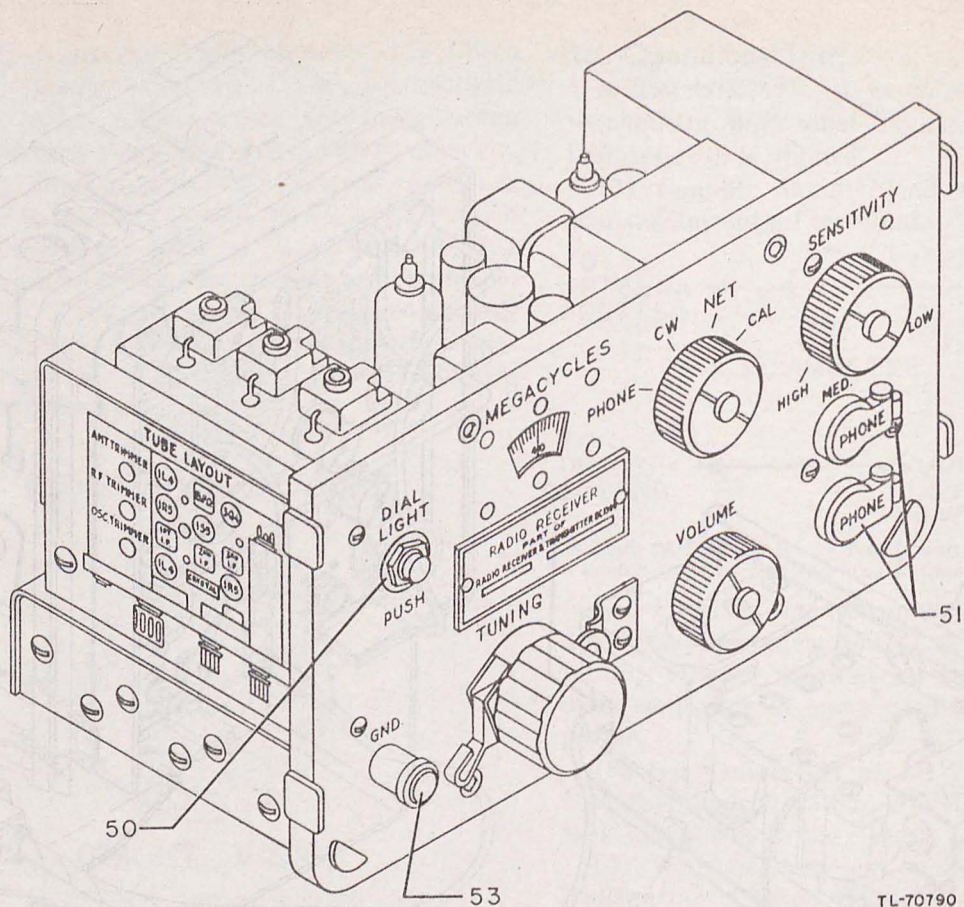

Figure 21. Parts identification of receiver, front panel, of Radio Receiver and Transmitter BC-1306.
(1) Plug the female connector of Cord CD-1086 into receptacle 144 on the transmitter making sure the retaining ring is screwed up tightly. Attach male connector at the other end of cord to a source of power.
(2) Plug a pair of earphones into one of the PHONE jacks of the receiver. (See fig. 21.) Turn switch 138 on the transmitter panel to STANDBY, thus applying power to the receiver.